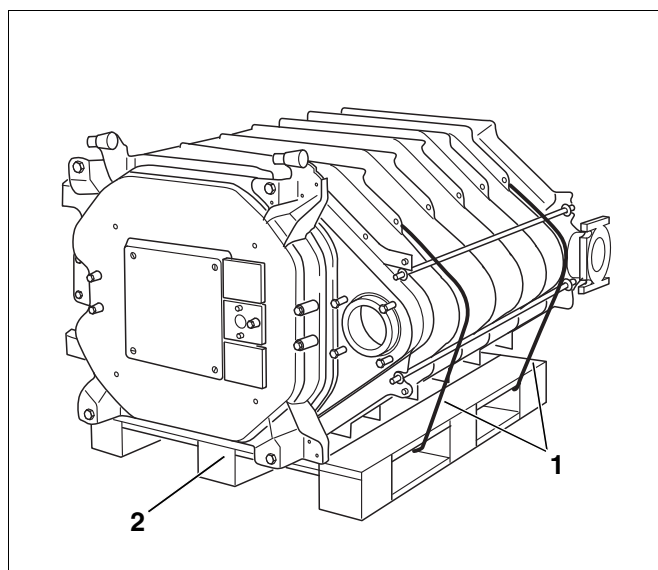

Fig. 23 Boiler block on pallet
- ▶ Cut through the securing straps (Fig. 23, [1]).
- ▶ Remove the pallet prior to positioning the boiler block (Fig. 23, [2]).